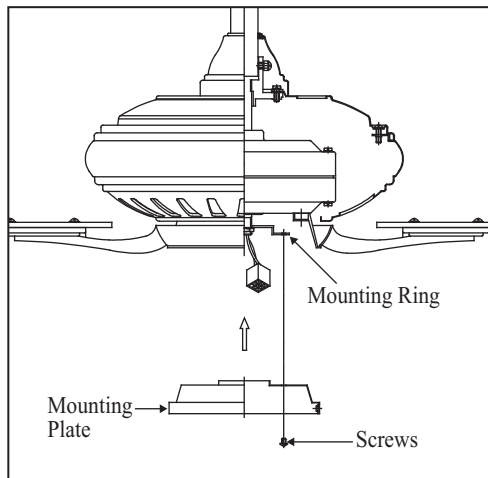

Figure 20
2. Place the key holes on the mounting plate over the 2 screws previously loosened from the mounting ring, turn mounting plate until it locks in place at the narrow section of the key holes. Secure by tightening the 2 screws previously loosened and the one previously removed. (Fig. 20)